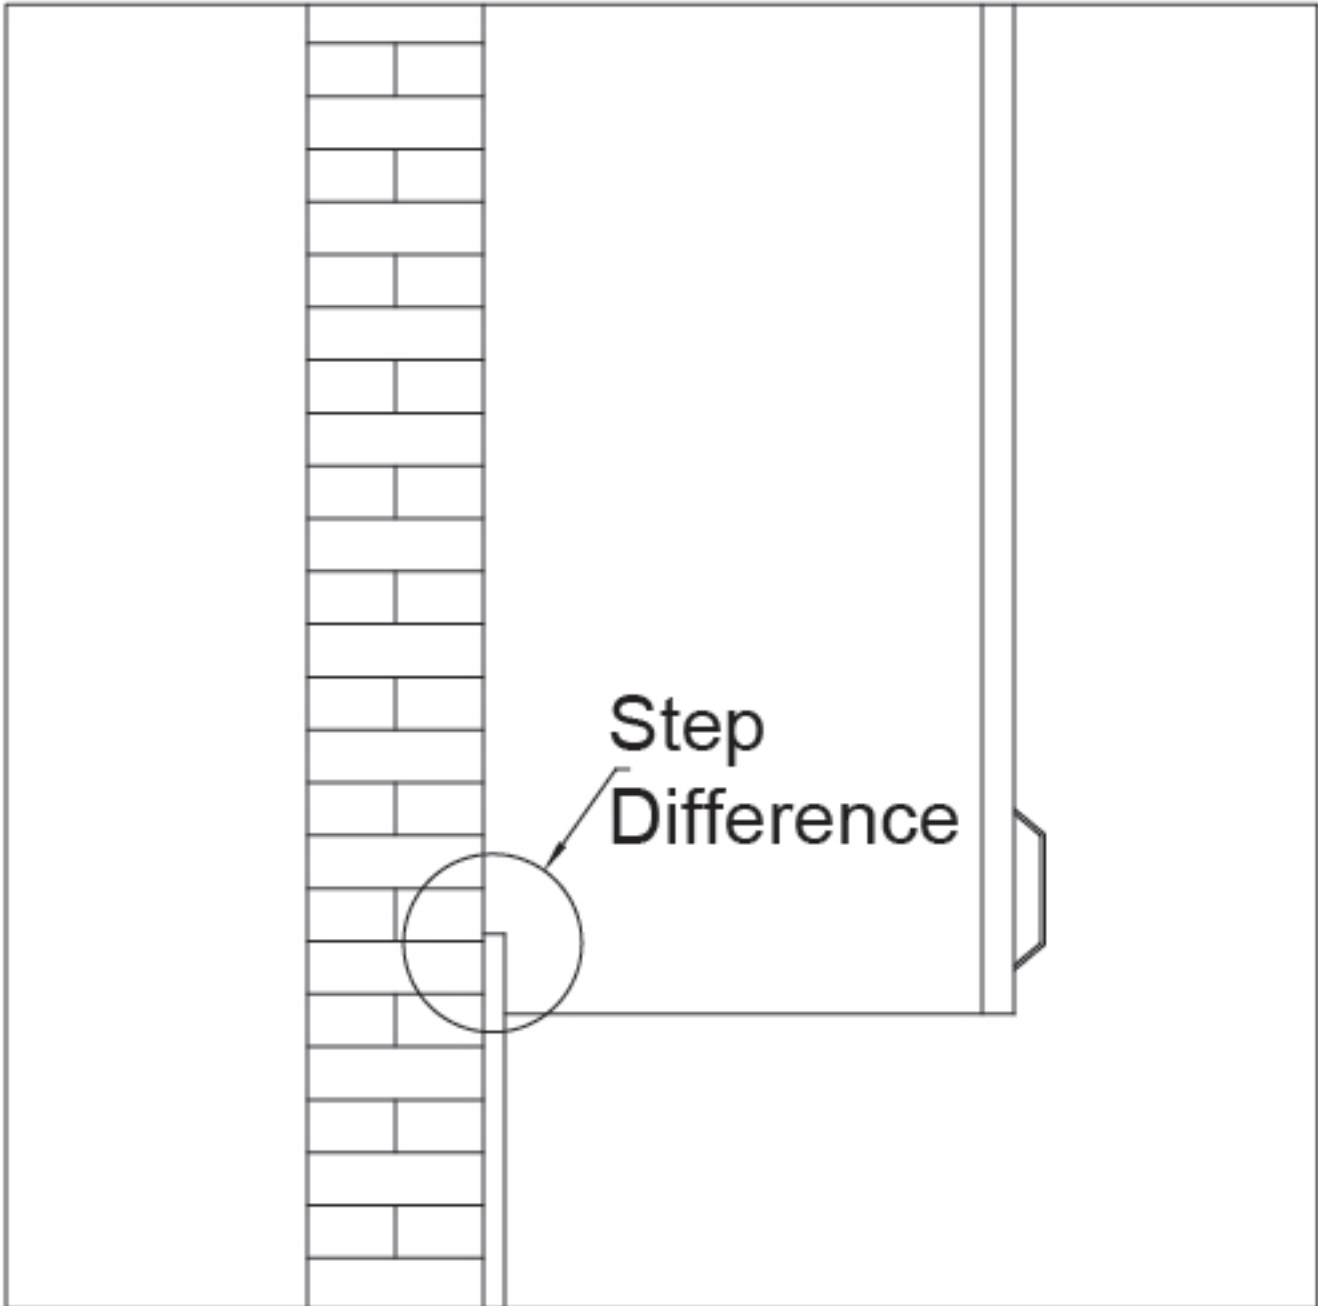
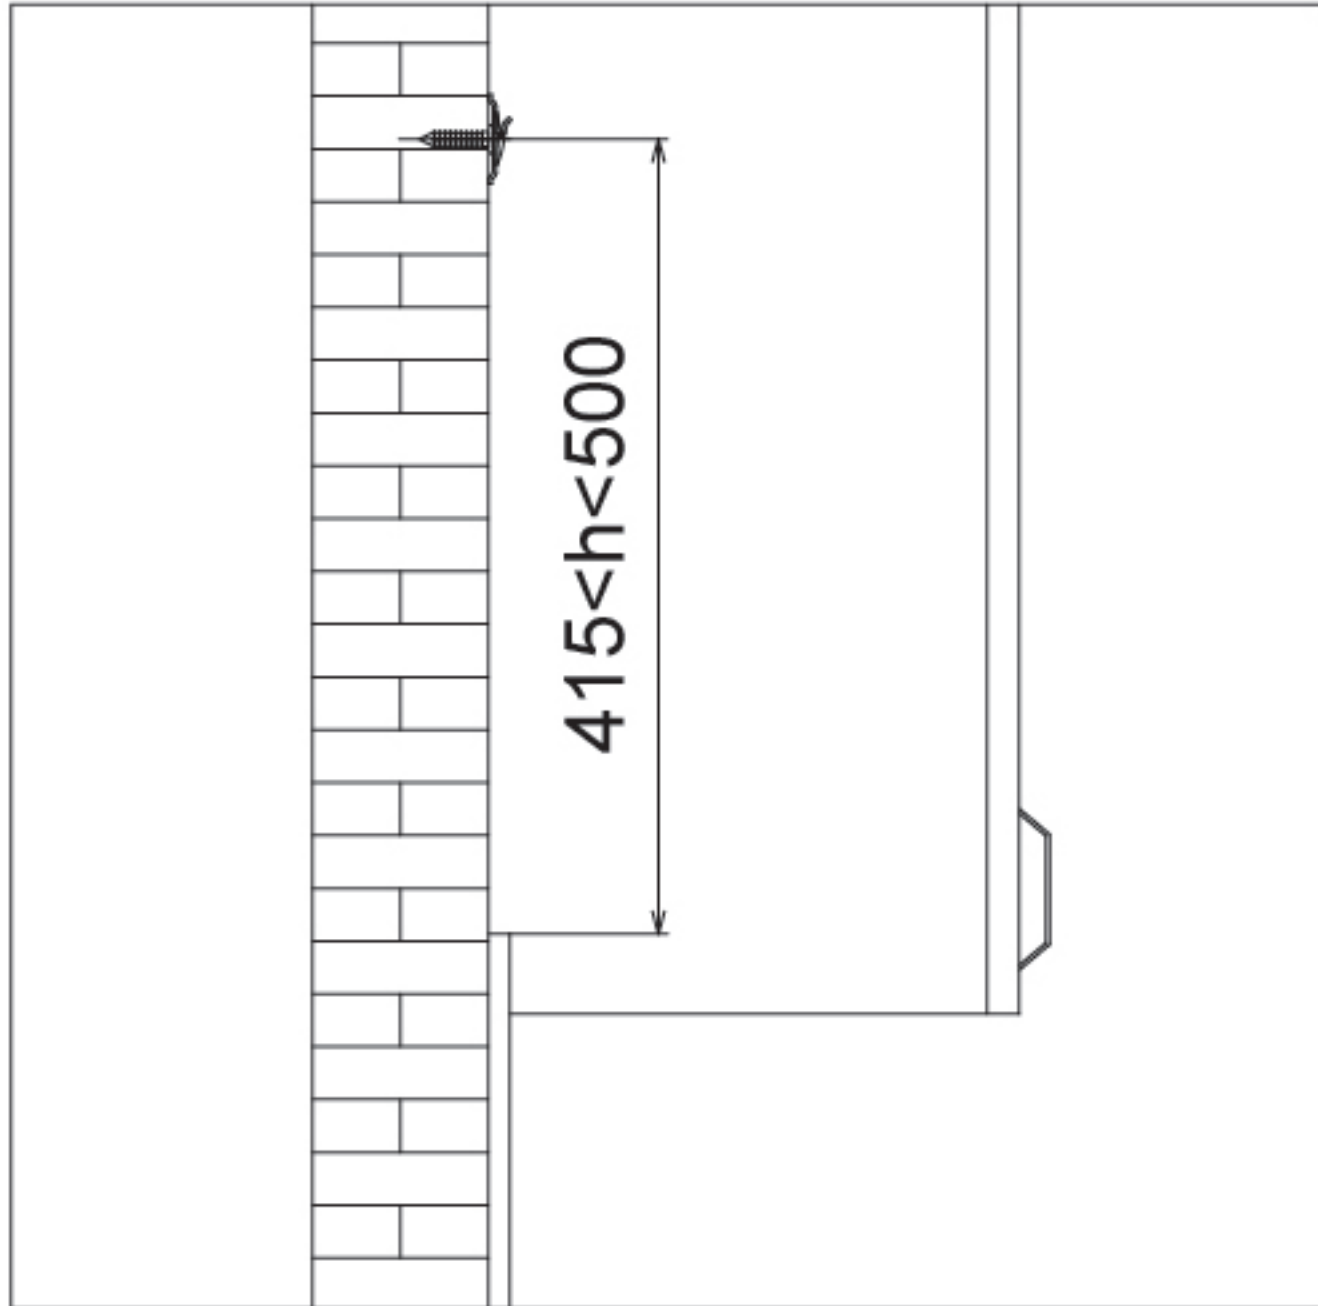
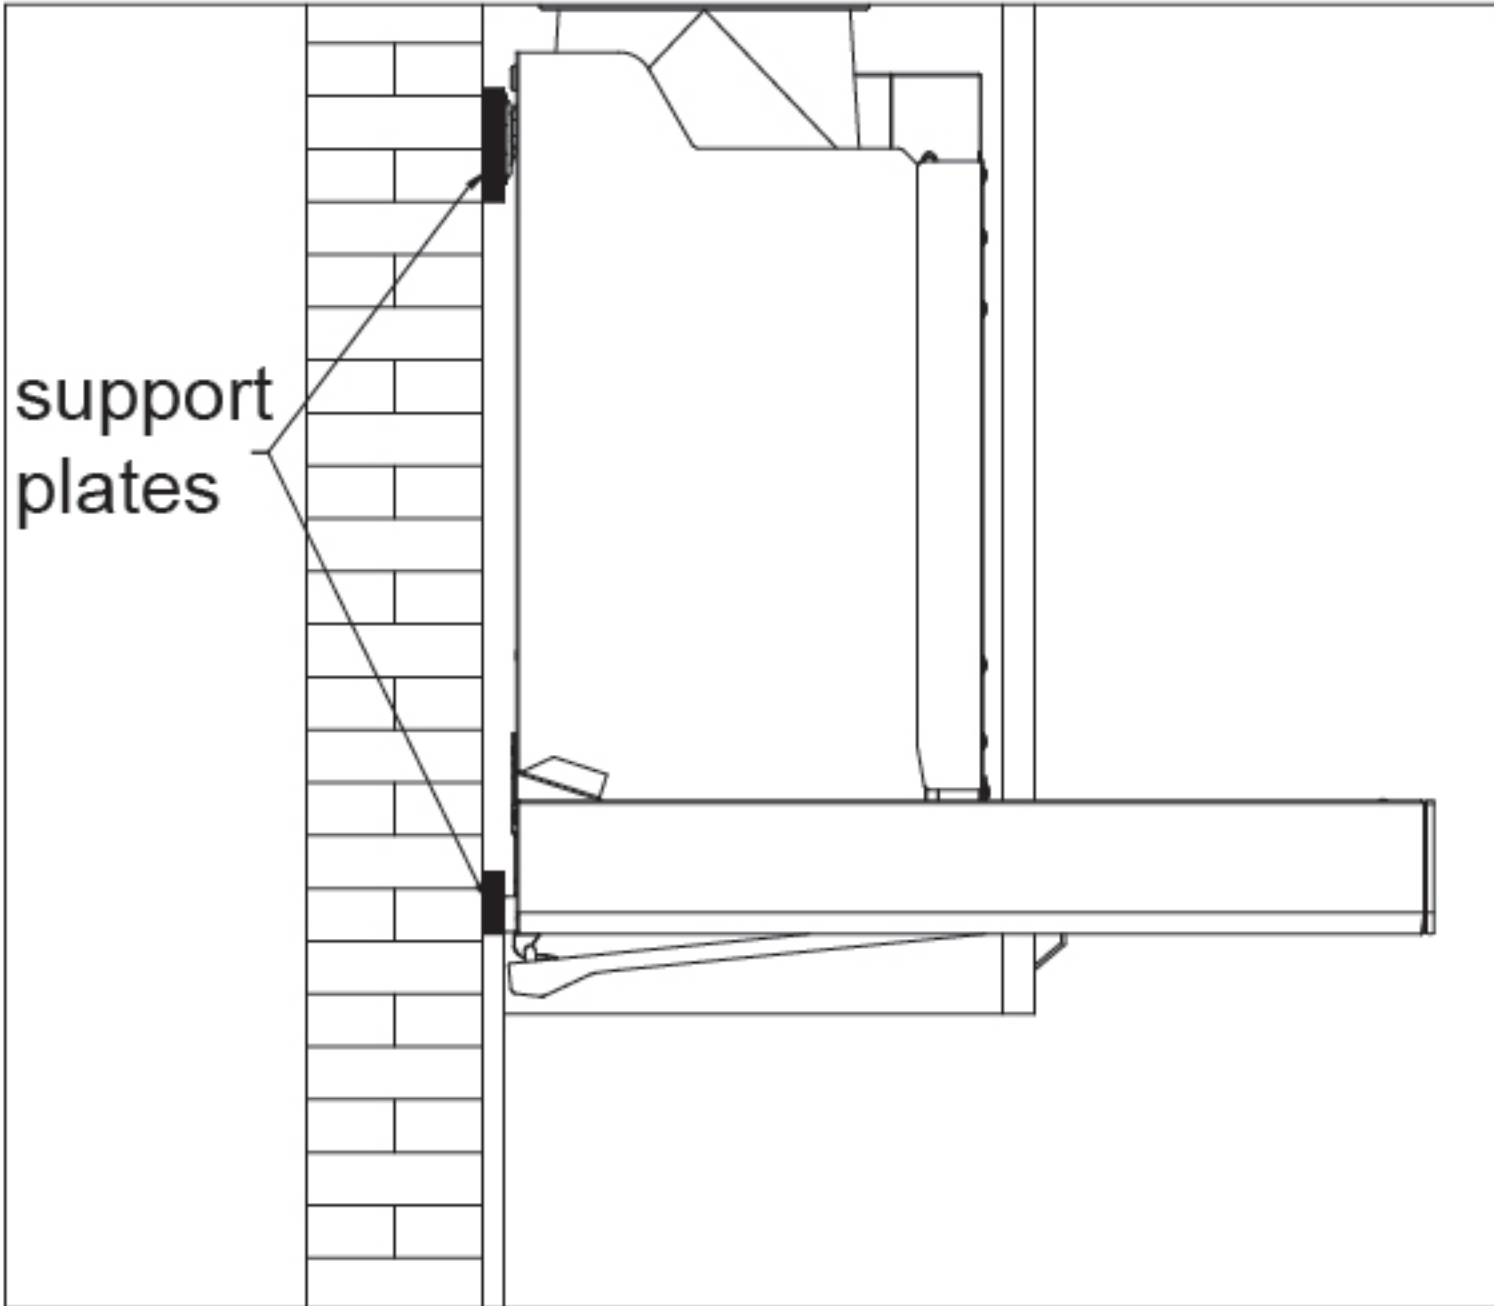

Fig.1
Fig.2
Fig.3
13. Where there is a step difference on the installation wall of the range hood as shown in Fig.1, if there is a situation as shown in Fig.2, the operation shall be carried out as shown in Fig.3, i.e., the support plates shall be added on the back of the hook and the foot-pad of the range hood. The thickness of the support plates shall be consistent with the height of the steps.